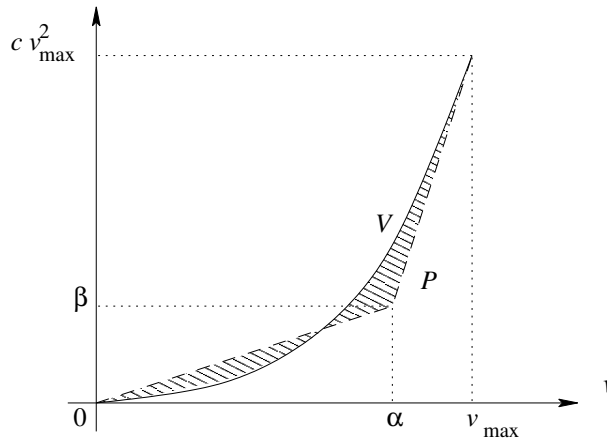

Figure 2: The quadratic function V and its PWA approximation P .
Step 2: Construct a piecewise affine (PWA) approximation P with 2 regions of the friction force curve $V : [0, v_{\max}] \rightarrow \mathbb{R} : v \mapsto v^2$ as follows. We want a perfect match for $v = 0$ and $v = v_{\max}$. This implies that we still have two degrees of freedom, i.e., the coordinates (α, β) of the middle edge point of the PWA curve (see Figure 2). Now determine α and β such that the *squared* area between V and P (i.e., the squared area corresponding the hashed region in Figure 2) is minimized, *or equivalently, such that*